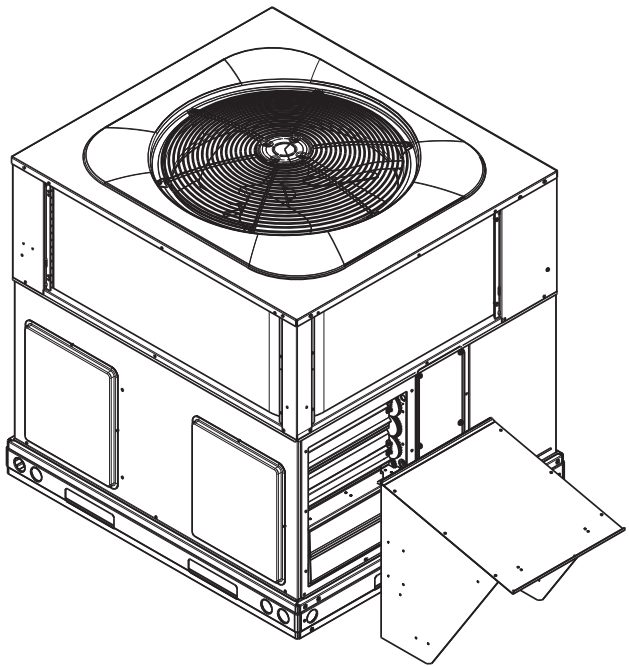

Fig. 14 - Economizer Hood Installation
9. Install assembled hood over the economizer opening in the replacement return chamber panel. See Fig. 14. Screw in place through pre-punched holes. Make sure all seams are watertight.